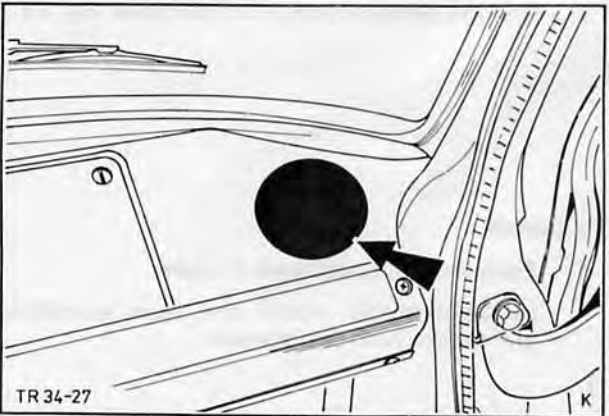

Fig. 30. Guide groove in fascia
- NOTE: Ensure vent locates in guide groove in fascia, Fig. 30.